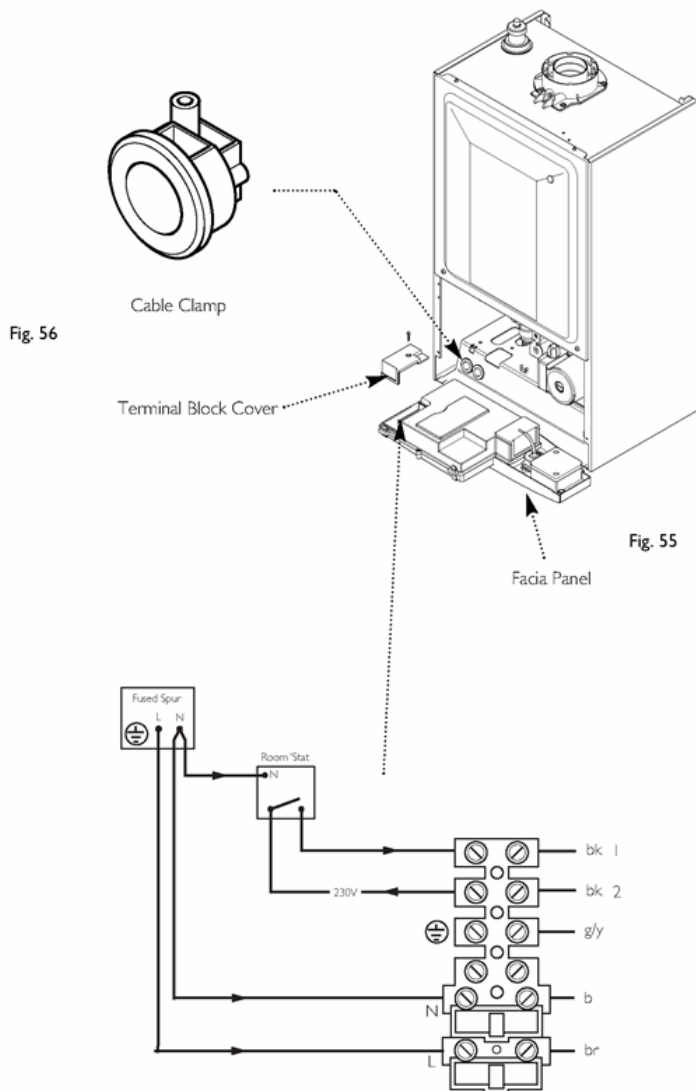

Fig. 55 & Fig. 56
2. Completely undo the screws securing the fascia panel and hinge it down (Fig. 55).
3. Undo the terminal block cover securing screw and remove the cover (Fig. 55).